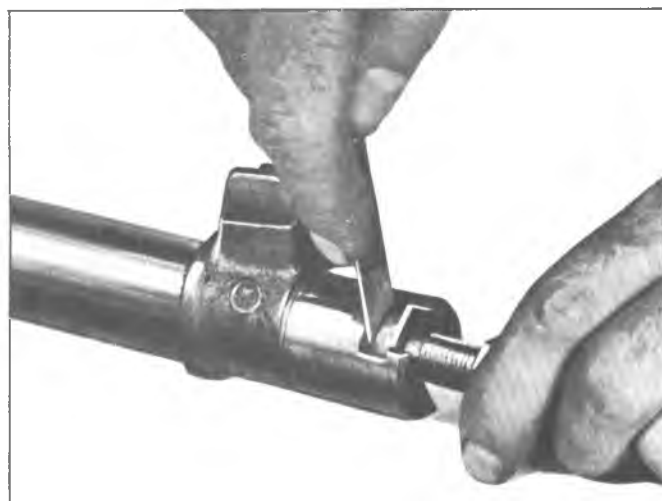

Fig. 16—Checking Lash Adjuster End Clearance
- Position the lash adjuster (with shim) in the slotted end of the pitman shaft. Check the end clearance, which should not be greater than .002" (fig. 16). If clearance is greater than .002", a steering gear lash